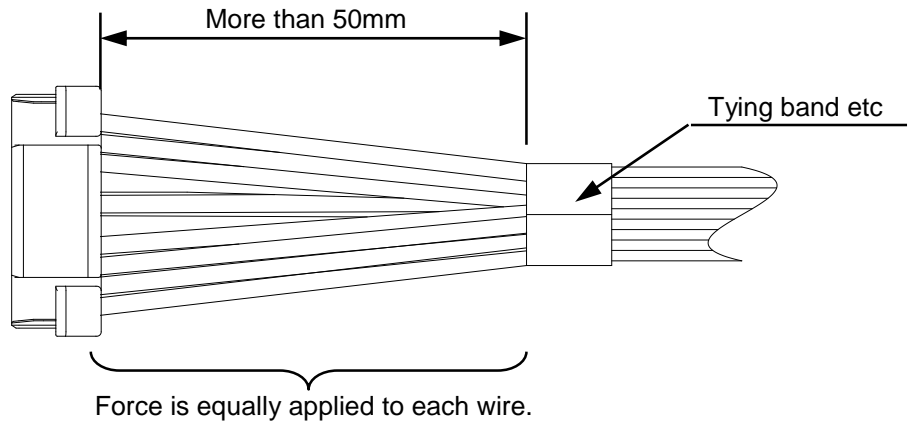

Fig.7-1 Harness is bundled properly
- ① Please bundle the wires at more than 50mm away from connector and uniformize the force applied to each wire. (Fig.7-1)